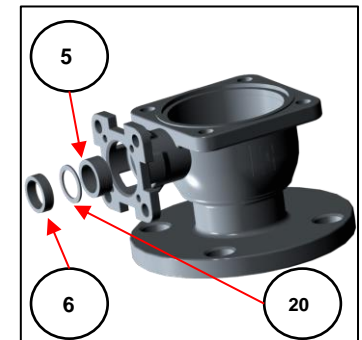

Figure 4-9
4.1.11 Remove the stainless-steel spacer collar (item 6), packing protector (item 20), and packing seals (item 5) from the valve-stem bore. Avoid scratching or gouging the interior surfaces for the valve-stem bore. (Figure 4-9)